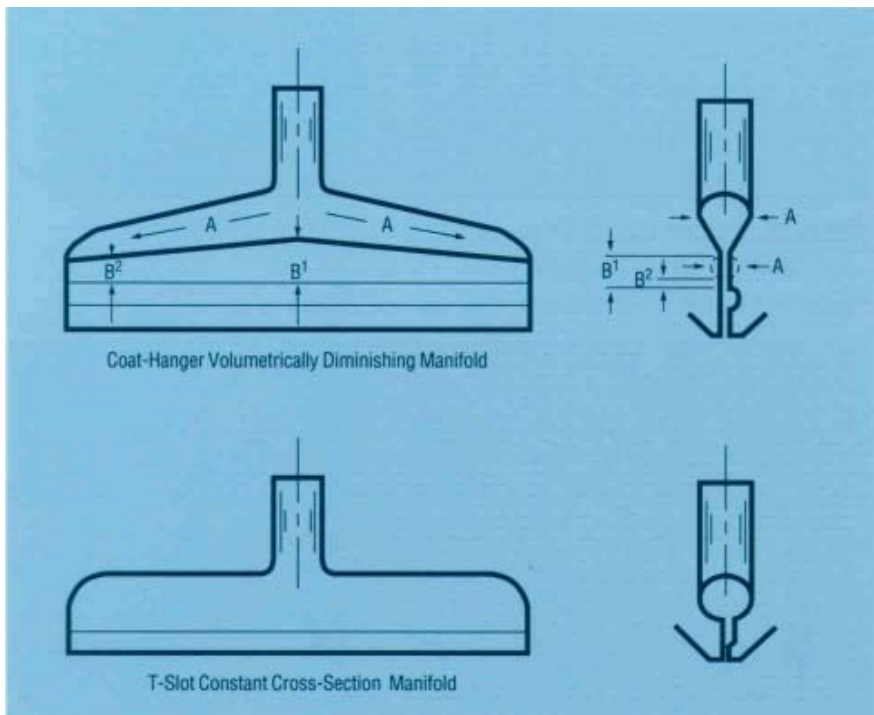

Figure 32. Coat Hanger and T-Slot Dies
- “T-slot” dies (Figures 32, 32A and 32B)